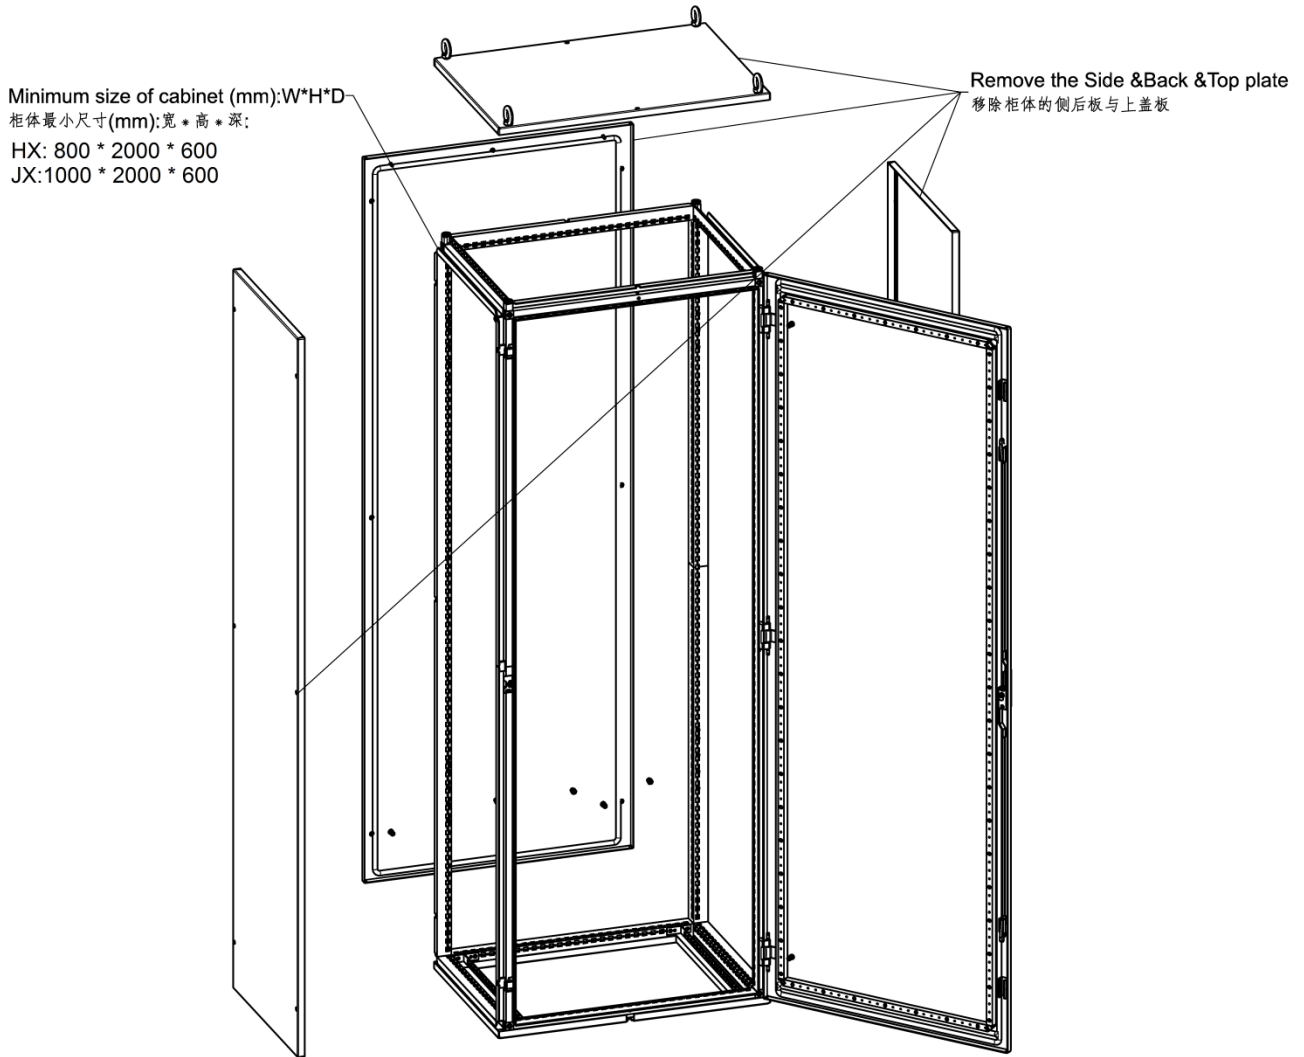

Figure 3-1 Remove the frame plates of electrical cabinet
- 1) Remove the side & back & top plate of electrical cabinet, see Figure 3-1;